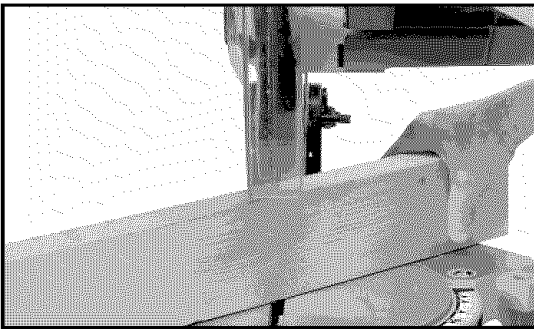

Fig. 30A
1. Your machine has the capacity to cut standard 2 x 4's lying flat or on edge, at the 45 degree right and left miter angles (Figs. 30A and 30B).